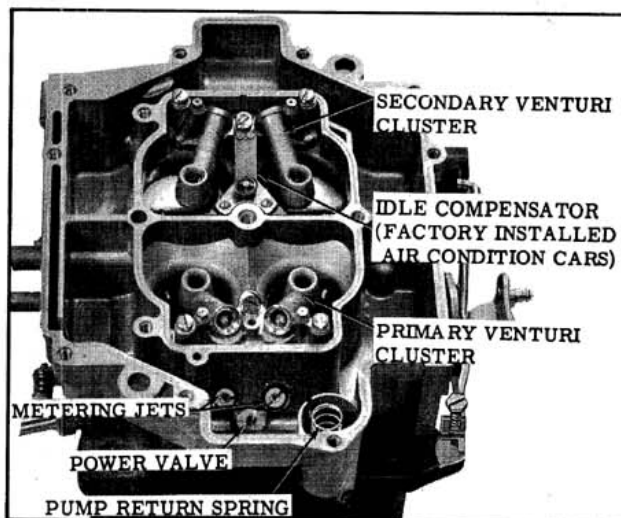

Fig. 4-51 Float Bowl Assembly
7. Remove the three attaching screws and lockwashers from the venturi cluster on the primary side, then remove the cluster and gasket. (Fig. 4-51)